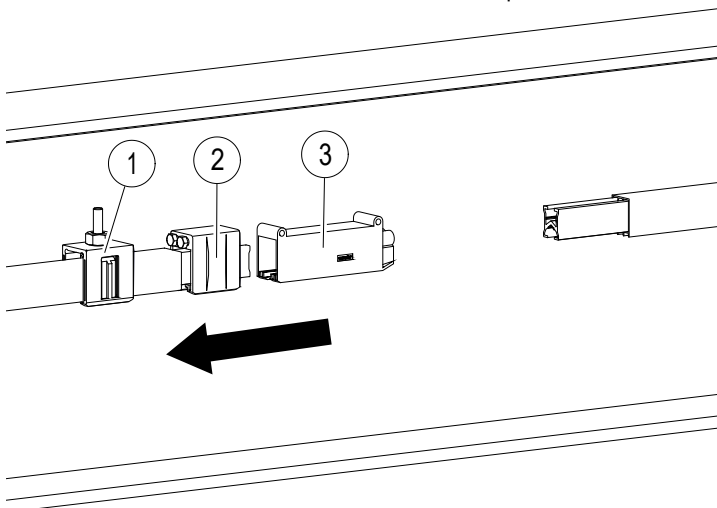
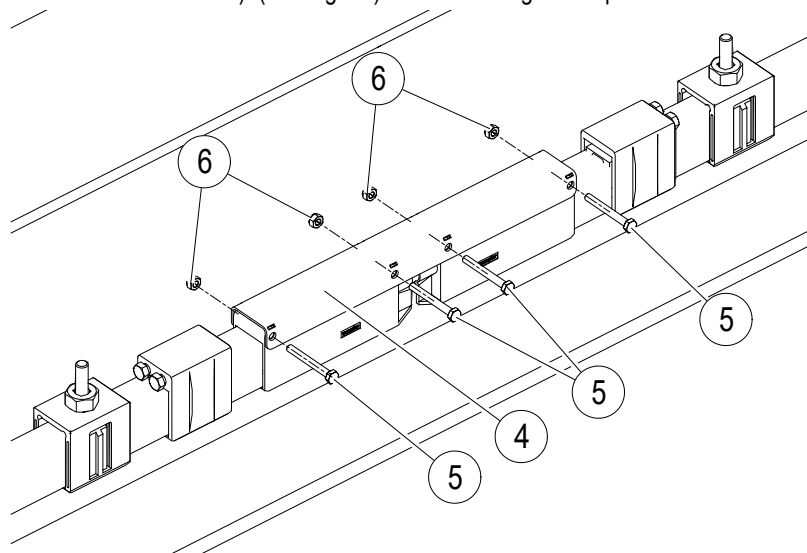

Fig. 93: Slide the hanger clamp, anchor clamp and end cap onto the end of the rail
Fig. 95: Mount the plate for the air gap
- Slide the hanger clamp (Pos. 1), anchor clamp (Pos. 2) and end cap onto the end of the rail (see Fig. 93). Do not yet tighten the screws on the side of the anchor clamp.
- Mount the plate for the air gap (Pos. 4) with fastening elements, consisting of hexagon screw DIN931-M6x50 (Pos. 5) (8 Nm) and lock nut DIN985 (Pos. 6), on the end caps (see Fig. 93) and tighten with the specified torque (SW 10, torque wrench: **8 Nm**). (see Fig. 95). Slide the hanger clamp onto the anchor clamp.